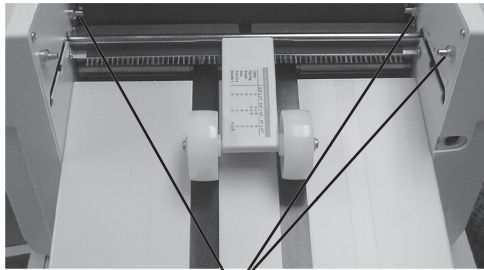

Fig. 1a
1. Install upper and lower fold plates in position. Be sure the plates are set firmly on the locating pins (Fig 1a & 1b). Slide the fold plate in until it meets the first locating pin then push down to lock it in position (Fig. 2).